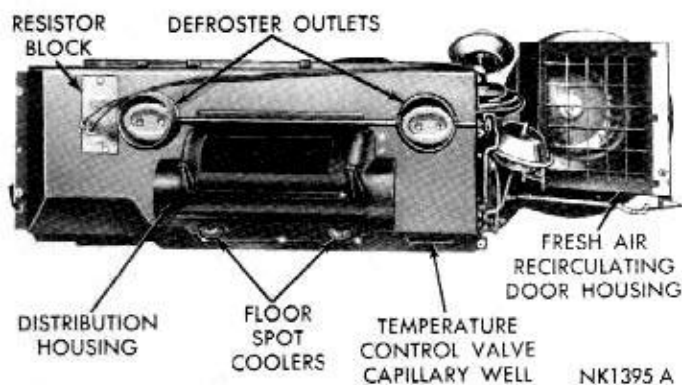

Fig. 9—Heater and Evaporator—Passenger Side
The heater core is located behind a separate cover attached to the evaporator case forward of the instrument panel (Fig. 9 and 10).
- (1) Disconnect cable at battery, drain cooling system, remove air cleaner, and disconnect heater hoses.
- (2) Remove distribution housing (Fig. 9) glove box